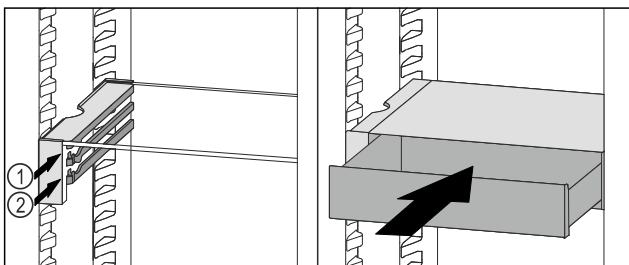

Fig. 176
- ▶ Place the VarioSafe drawer behind the stoppers on desired rib Fig. 176 (1) or Fig. 176 (2).